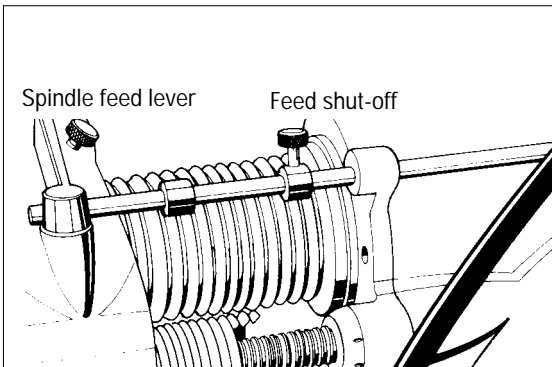

Figure 16 - Set spindle feed shut-off
20. Set the feed shut-off by sliding it on the shaft to a point that approximately equals the depth of the drum and tightening it in place (figure 16). The feed will stop when it reaches this point.